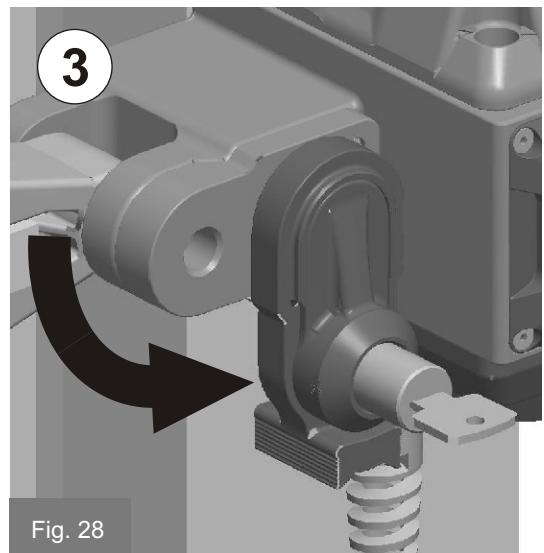

Fig. 28
3. Turn the releasing lever towards the bottom as (Fig. 28).